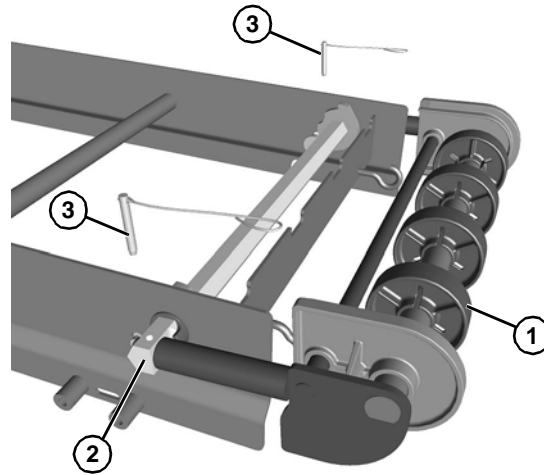

Figure 20
- Place the idler tail assembly (**Figure 20, item 1**) against the holes in the tip up hex shaft assembly (**Figure 20, item 2**) and secure with a pull pin (**Figure 20, item 3**) on each side.